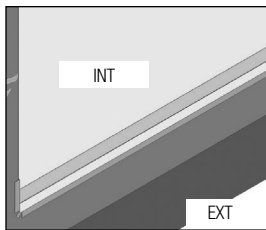

FIG. 9
- F) Flashing tape must cover the entire sill plate. If needed, apply an additional flashing piece over the first one (*start from the exterior and work toward the interior*). Maintain a minimum 1" overlap. (Fig. 9)